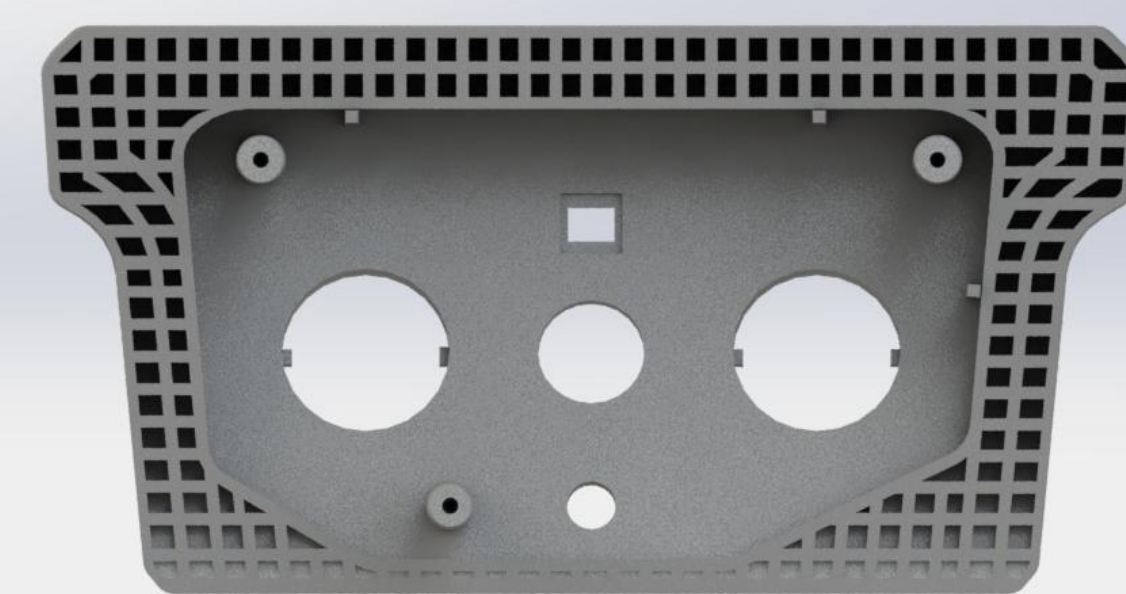

Figure 2
- Used maximum adhesive surface area on all seal surfaces, such as in the ribbing shown in figure 2